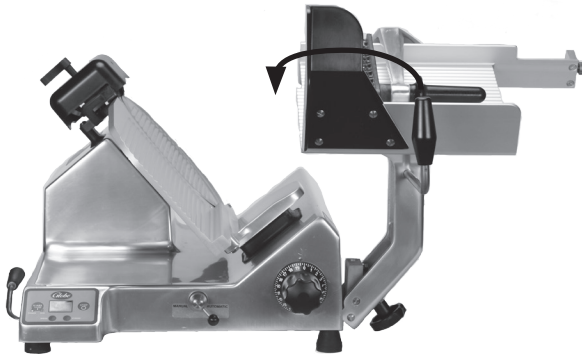

Figure 14-1
3. Put the cleaned and sanitized food chute back into operation (Fig. 14-1).